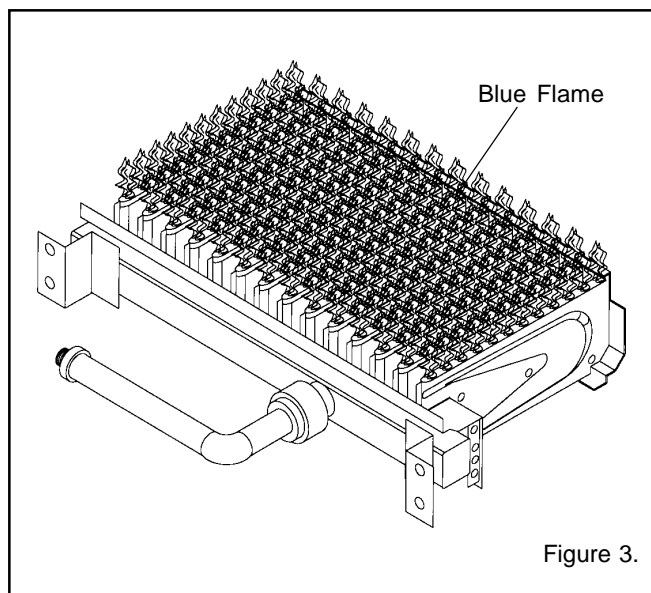

Figure 3.
2. Visually inspect the main burner and the pilot burner flame (on millivolt models). The normal color of the flame is blue, see Figure 3. When flame appears yellow, burners should be inspected and cleaned.